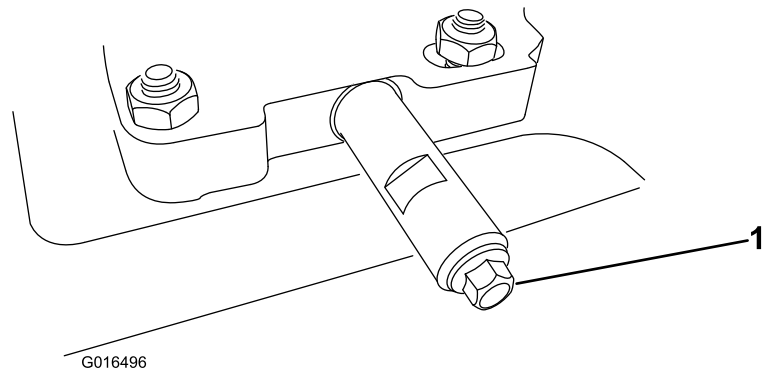

Figure 51
- Clean the area around the oil drain cap (Figure 51).